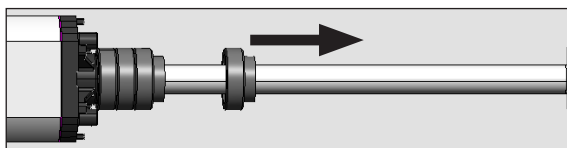

Fig.25
4. Remove all spacers, if present (Fig. 25).